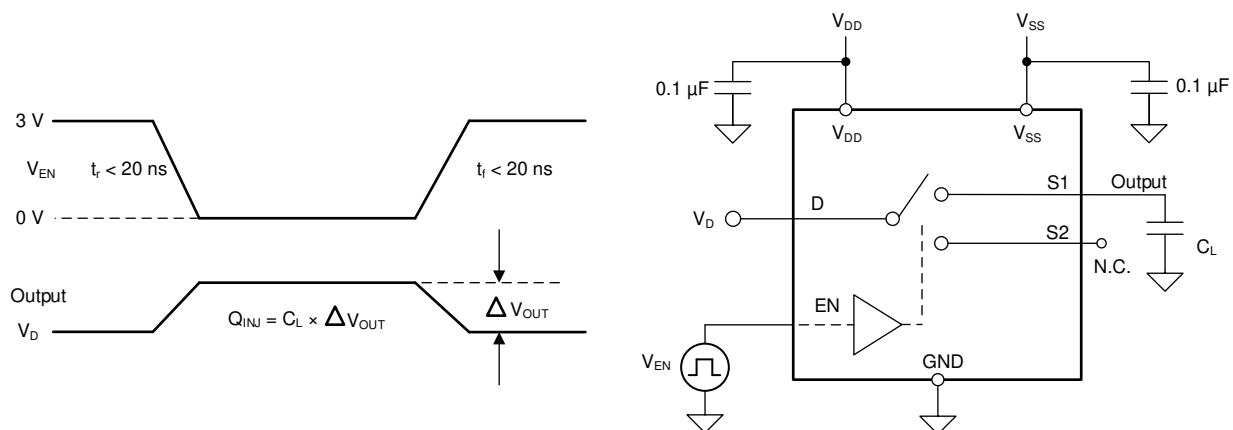

图 6-9. Charge-Injection Measurement Setup
The TMUX7219 has a transmission-gate topology. Any mismatch in capacitance between the NMOS and PMOS transistors results in a charge injected into the drain or source during the falling or rising edge of the gate signal. The amount of charge injected into the source or drain of the device is known as charge injection, and is denoted by the symbol Q_C . 图 6-9 shows the setup used to measure charge injection from source (Sx) to drain (D).